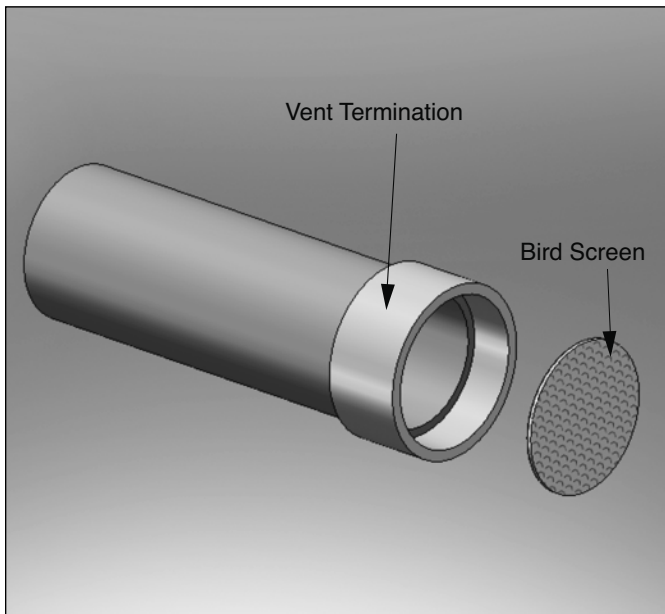

Fig. 16: Horizontal Vent Bird Screen Installation with Coupling Termination
1. The vent and combustion include a factory supplied "b" elbow as shown in Figs. 16 through 19